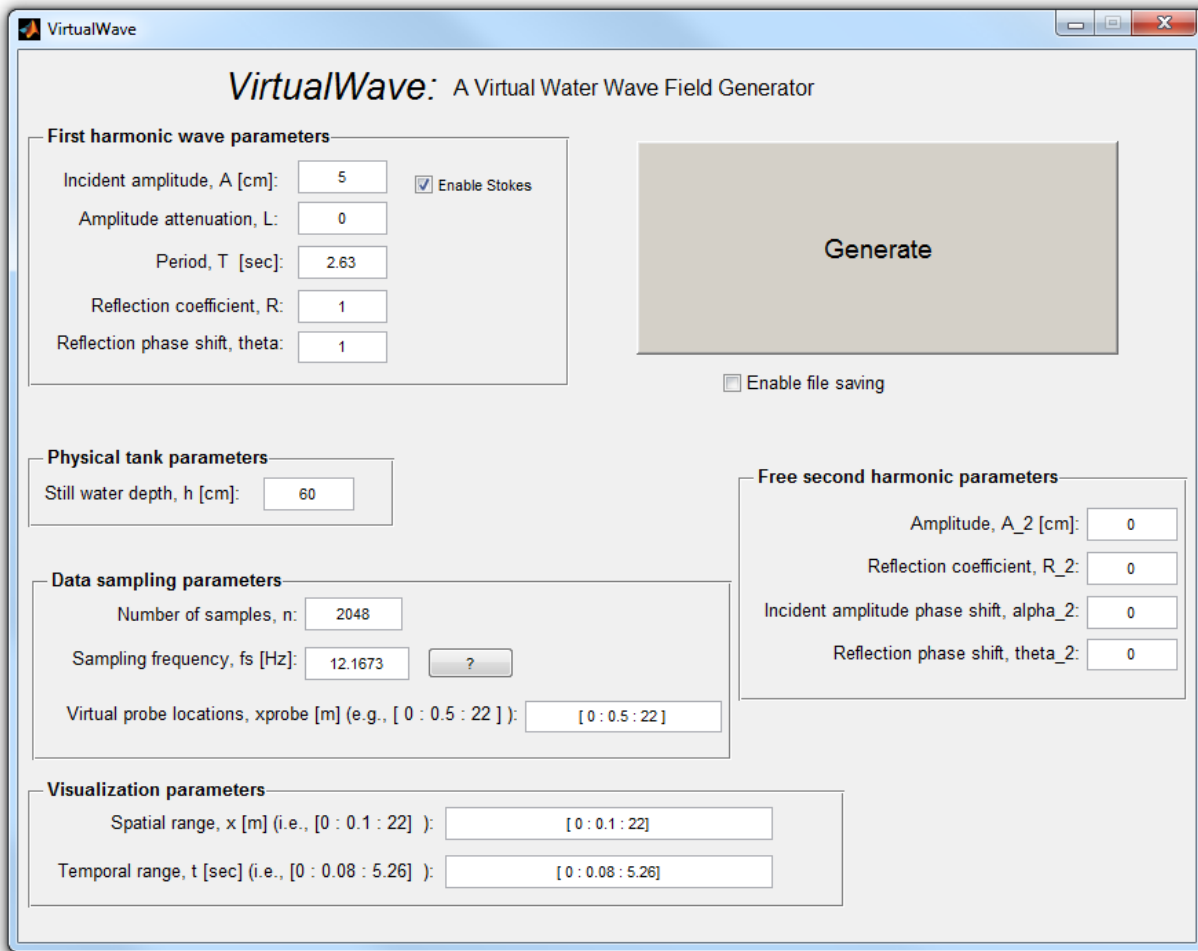

Figure 17. Main *VirtualWave* GUI.
Figure 17. Lambda and lambda_2 are the wavelengths of the first and free second harmonics, respectively. The first harmonic, second harmonic, and rms amplitudes, denoted by eta_1, eta_2, and eta_rms, are defined in Eqs. (6), (4) and (7) in (Landry et al., 2012), respectively.